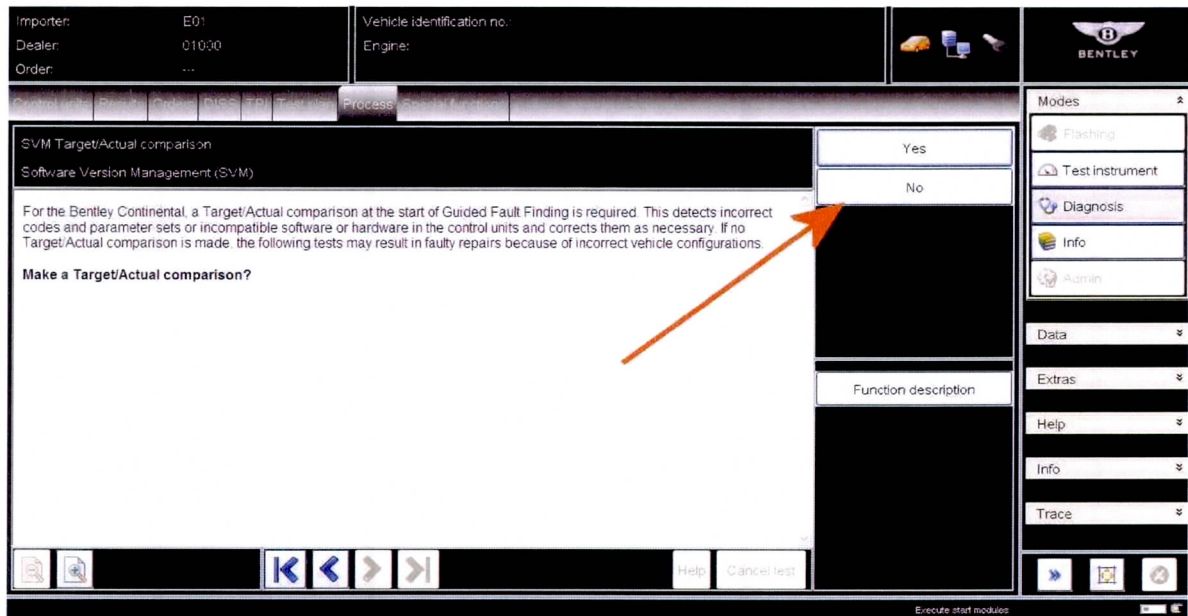

Figure 4
2. When requested to Make a SVM Target/Actual comparison? Please select No.(Figure 4)